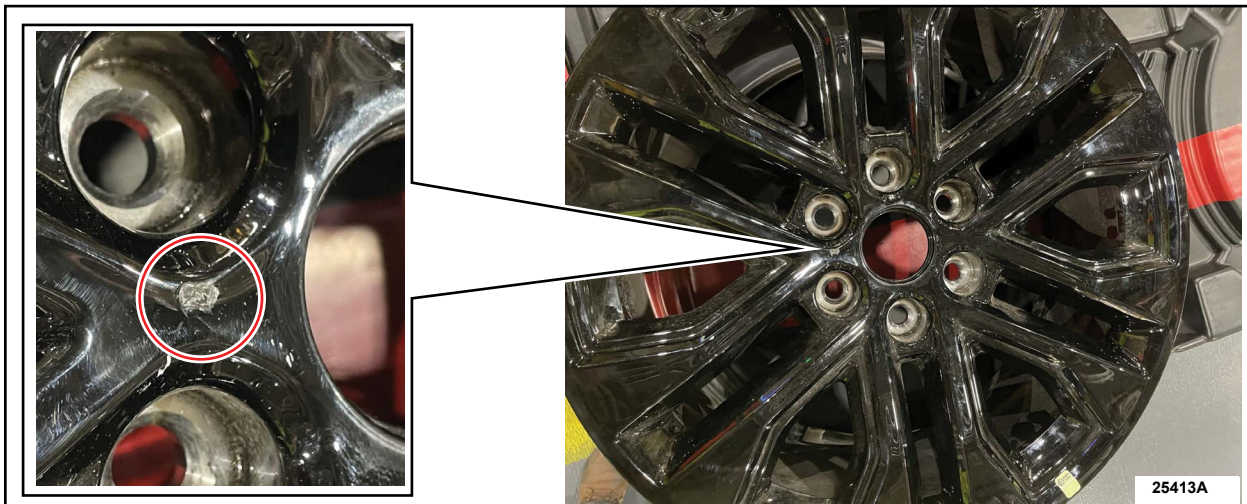

FIGURE 1
1. Inspect all 4 wheels for damage, located near the lug holes. See Figures 1 and 2.